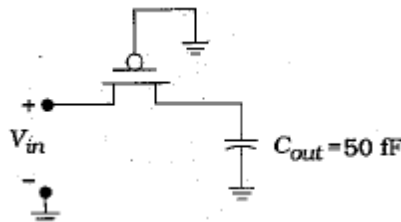

Figure Q2A
- 2A. The pFET pass transistor in Figure Q2A has an aspect ratio of 8 in a process where $k_p = 60 \mu A/V^2$, $V_{DD} = 3.3 V$, and $V_{Tp} = -0.8 V$. At time $t=0$, the output capacitor is charged to a voltage of V_{DD} while the input is switched to $V_{in} = 0 V$.